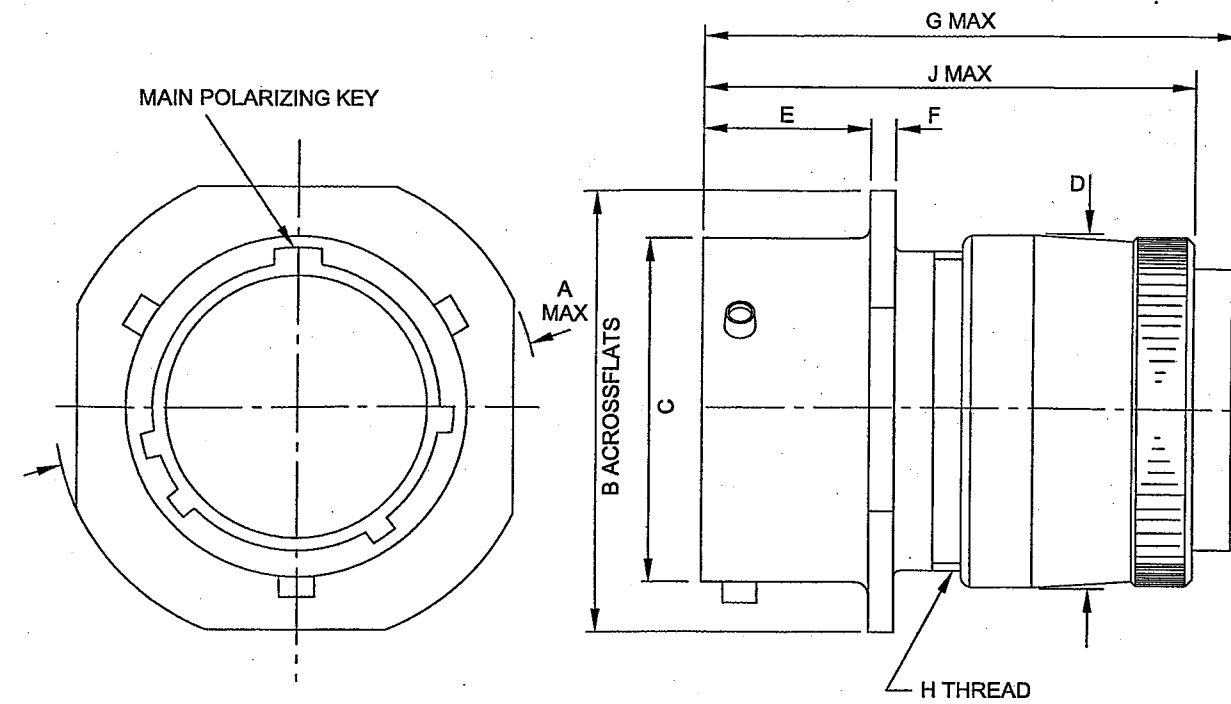

Fig 11 461 Cable connecting plug, dimensions
10.4 Dimensions of the receptacle are given in Fig 11 and details in Table 7.